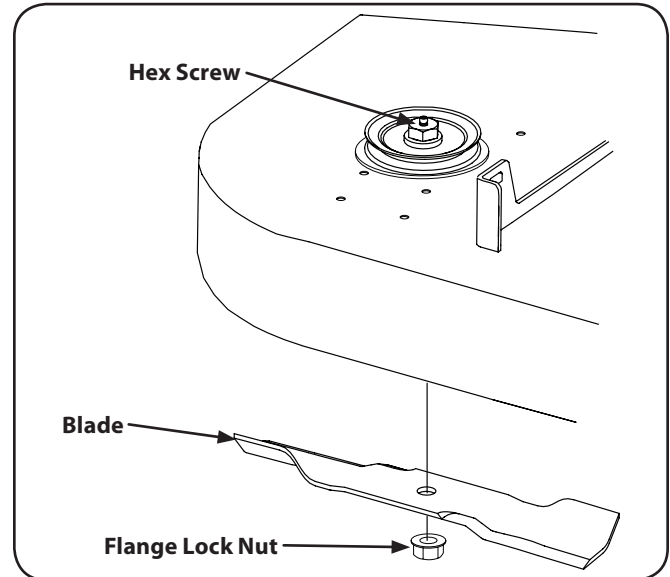

Figure 7-5
4. Use a 1-1/8" socket wrench on the pulley side of the spindle bolt. See Fig. 7-5.